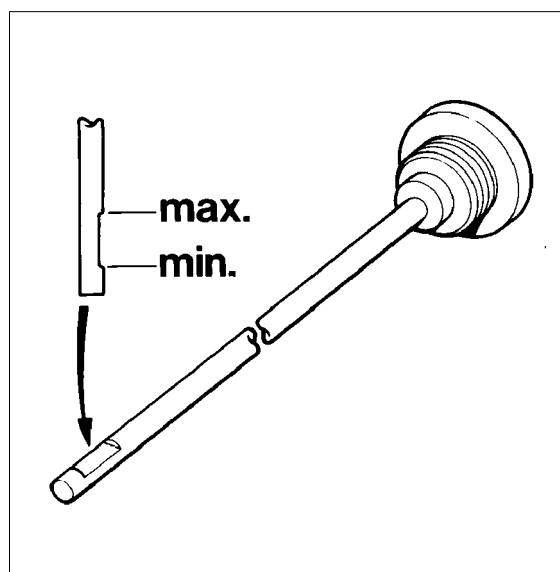

Fig. 7 Oil dipstick markings
Check oil level daily prior to putting compressor into operation. Check using oil dipstick. Wipe off dip stick with lint-free cloth, note that the oil level must be between minimum and maximum dipstick notches (see Fig. 7).
- Oil level is checked with oil dipstick, see Fig. 7 – oil level is correct if at upper mark.